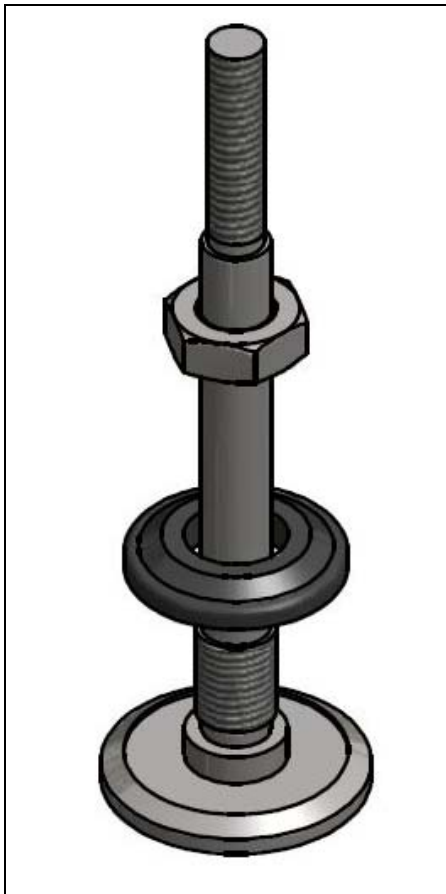

Figure 1.
1. With the new gasket oriented as shown in Figure 1, slide the gasket all the way down onto the valve stem. Ensure the gasket is fully seated into the gasket holder recess.